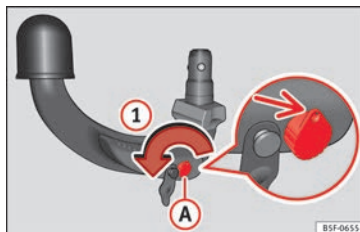

Fig. 179 Step 1.
- Turn the key in the direction of arrow ① until the part of the key with the holes reaches the top position » **Fig. 179**.